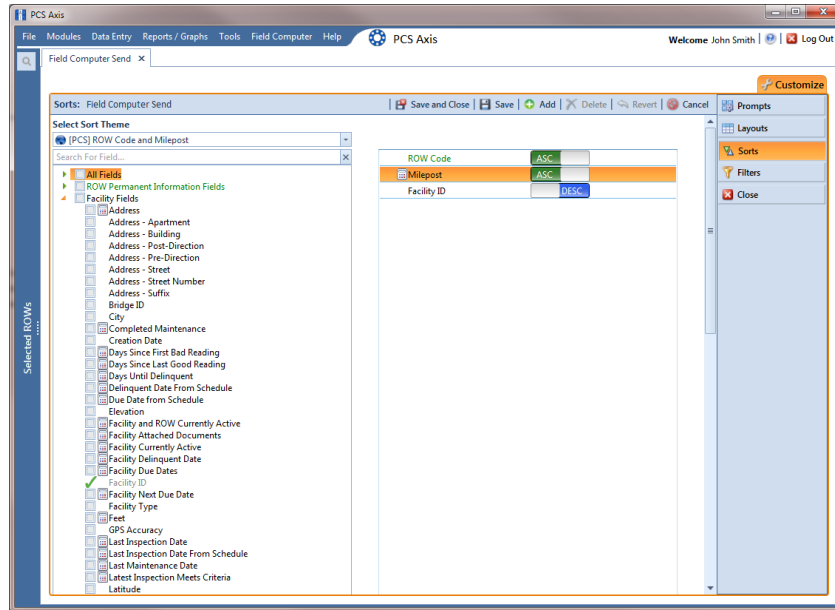

Figure 13-40. Sorts
- 9 Click  **OK** to save changes and return to the *Sorts* page (Figure 13-40, page 638).